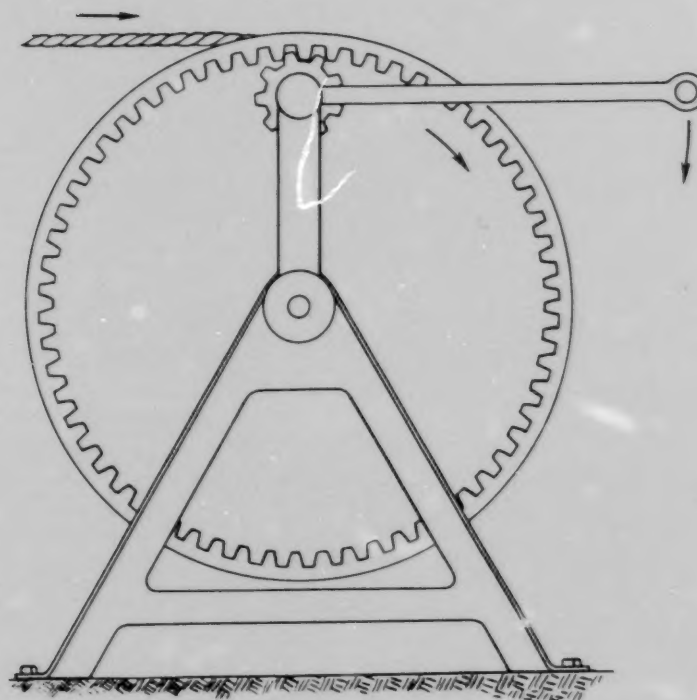

Fig. 11. Using gears for mechanical advantage
A mechanical advantage can be gained if gear trains are used. Any time there is a speed reduction, the effect of the energy you apply is multiplied. A cable winch is shown in figure 11. The crank arm is 30 inches long, and the drum on which the cable is wound has a 15-inch radius. The small pinion gear has 10 teeth, which mesh with the 60 teeth on the internal spur gear. It is easier to calculate the mechanical advantage of this device by considering it as two machines.
16. How is it easier to calculate the mechanical advantage of a device such as the one shown in figure 11?